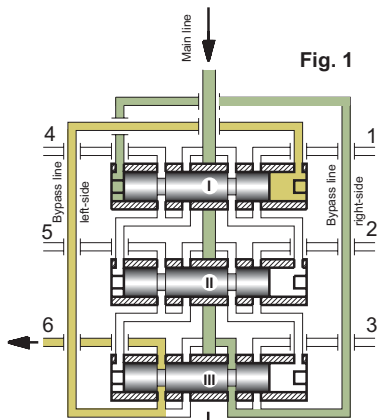

Fig. 1
**Functional process fig. 1 ... 4:**
As for instance due to soiling, the flow through a lubricant point line may be prevented. This will cause a piston to get blocked. By virtue of the forced control as depicted in figures 1 up to 4, the other pistons will be stopped as well. Due to this configuration, the proportioning at all outlets of the distributor can be monitored by means of a sensor at one piston only.